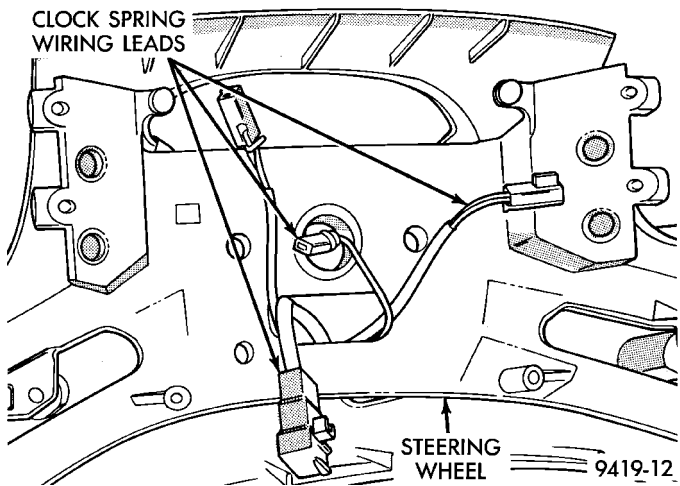

Fig. 20 Steering Wheel Installation
(13) Feed clock spring wiring leads through hole in steering wheel (Fig. 20). Position steering wheel on shaft of steering column assembly, making sure to fit flats on hub of steering wheel with formations on inside of clockspring.